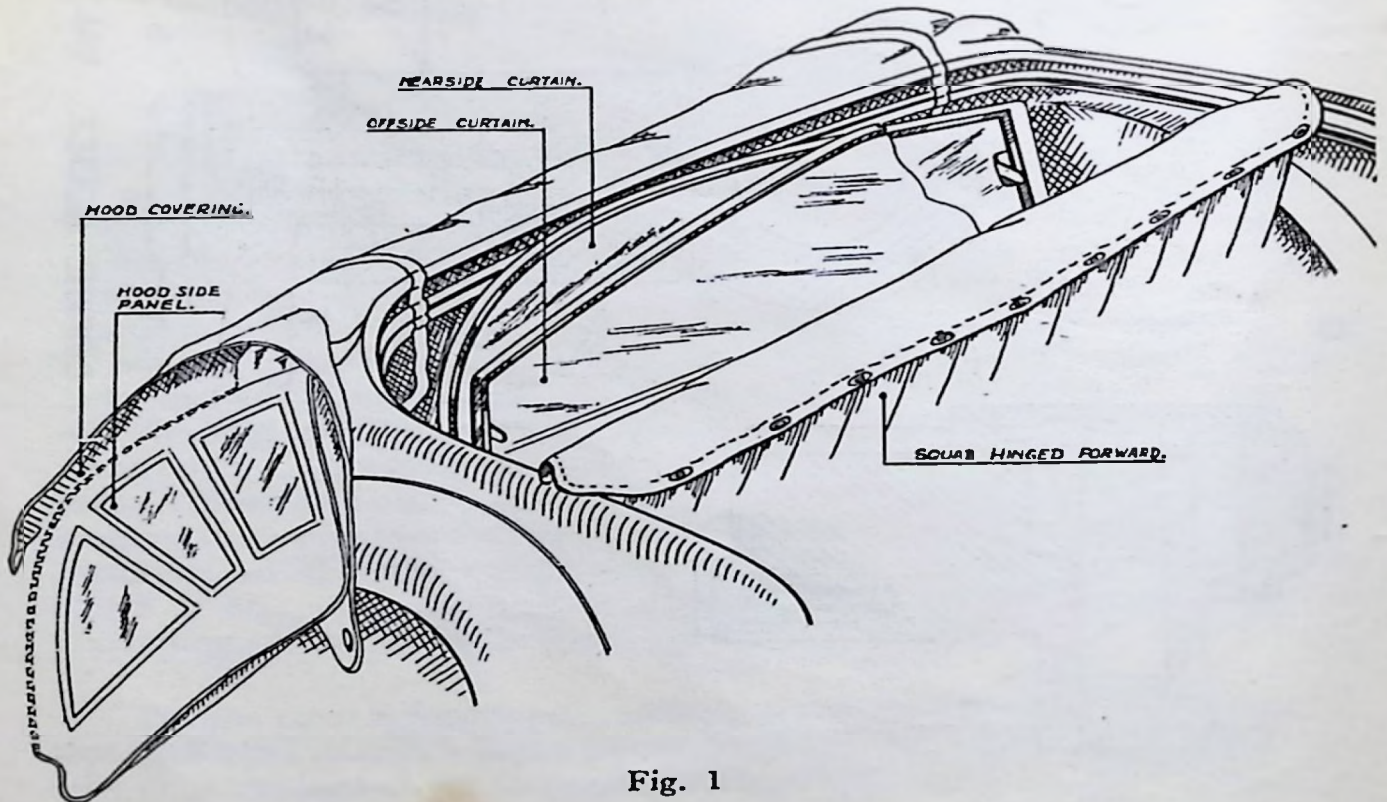

Fig. 1
THE brake shoes are pressed from solid drawn "T" section steel, and are operated by the expander shown in Fig. 1 (see illustration printed on the back of the Lubrication Chart). The hardened steel cone (1) which is actuated by the pull rod (2) causes the plunger (3) to move outwards. Hardened steel rollers (4) are interposed between the cone and the plungers to reduce friction to a minimum. The plungers engage directly with the brake shoe webs. The whole expander mechanism is enclosed in a die cast housing (5) which contains a supply of lubricant (Duckham's Keenol Grease K.G.20) and protects the moving parts from mud, etc. This housing is slidably attached to the backplate (6) by studs and spring washers (7) which provide a slight frictional contact. The housing does not withstand any of the stresses set up by braking as it virtually floats between the brake shoes. In view of this fact it will be realised that the brake shoes are self-centring under the influence of the brake shoe pull-off springs. It will be noticed that the rollers (4) are freely mounted and roll up grooves in the plunger and down the inclined face of the cone. When shoes are removed for relining, pin (8) retains the plungers in position in the housing. This type of shoe expander provides a high step-up ratio and multiplies the low input effort of the pull rods very considerably (6.3 to 1).
7. Place nearside sidescreen in back of recess at the back of the rear seat squab with the pegs pointing downwards with inside of inside curtain facing forward. Ensure that this side curtain is as far in the recess as it can possibly go (see Fig. 1).